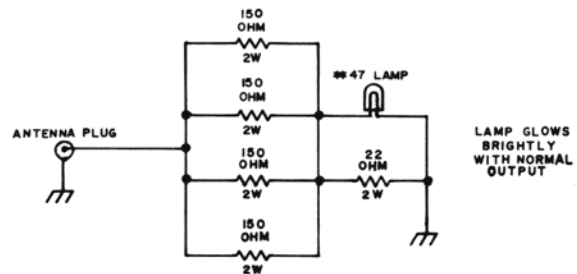

FIGURE 8
- 50 Ω dummy load. (See Figure 8).